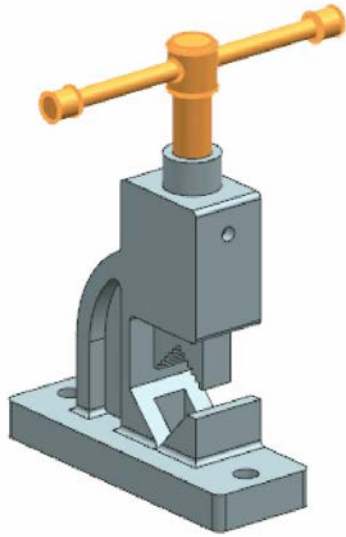

Figure 9-46 The components selected for explosion
2. Select the Screw, Handle Screws, and Handle from the assembly and then select the **Move Objects** radio button from the dialog box; a dynamic triad is displayed, refer to Figure 9-46.